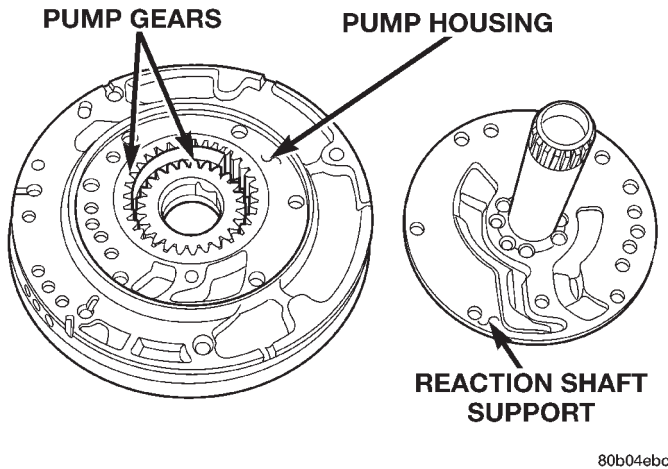

Fig. 87 Reaction Shaft Support
- (1) Remove the reaction shaft support bolts.
- (2) Remove reaction shaft support from pump housing (Fig. 87).